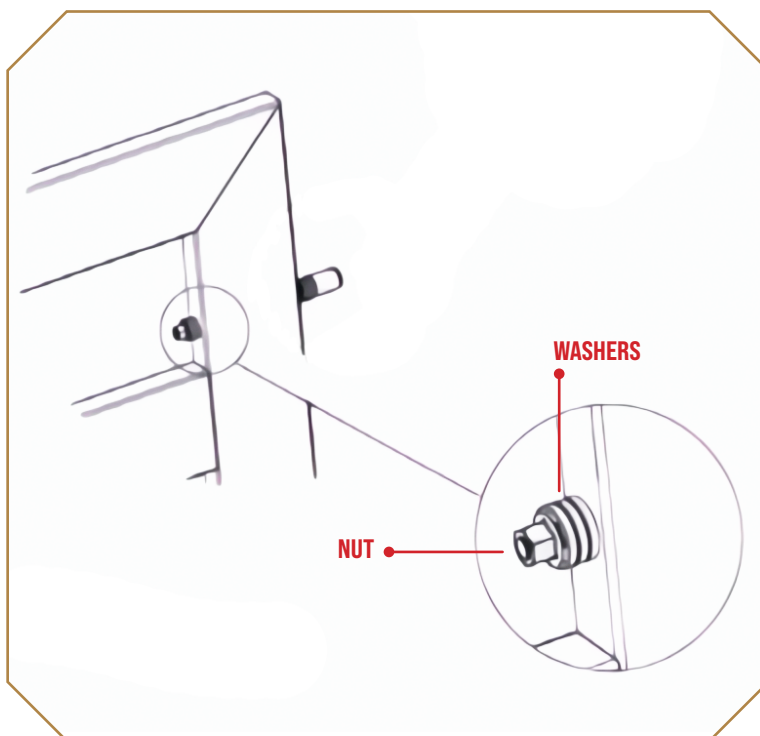

Figure 3
4. Place the remaining washers and nut onto the pin (Figure 3).